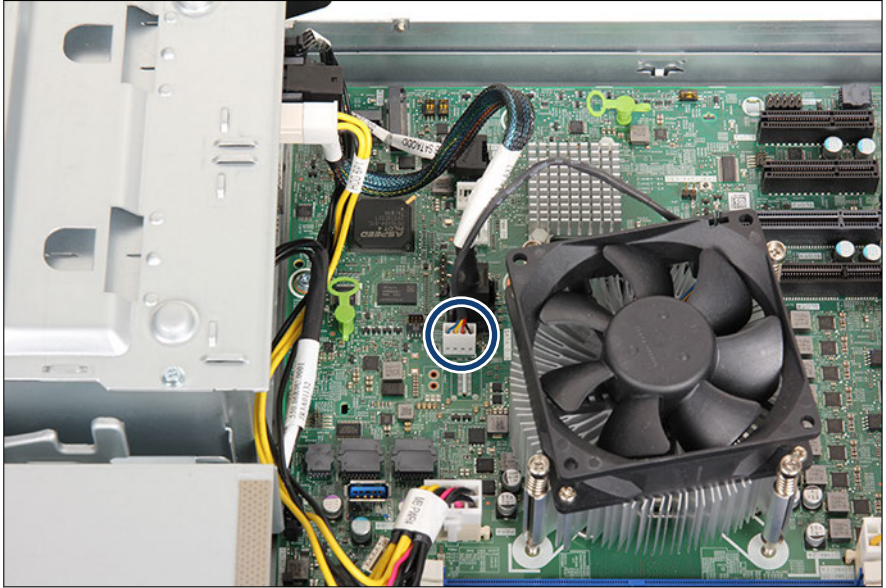

Figure 157: Connecting the CPU fan cable
- ▶ Connect the CPU fan cable to the connector "FAN CPU" on the system board, see Figure 157.